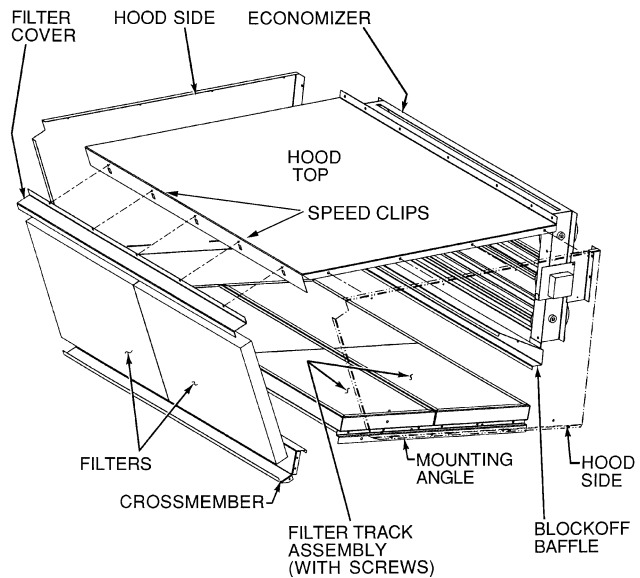

Fig. 27 — Economizer Hood Assembly (Right Side/Center Economizer Hood Shown)
2. Assemble hood sides, top, and cross member with gasketed screws provided. See Fig. 27.